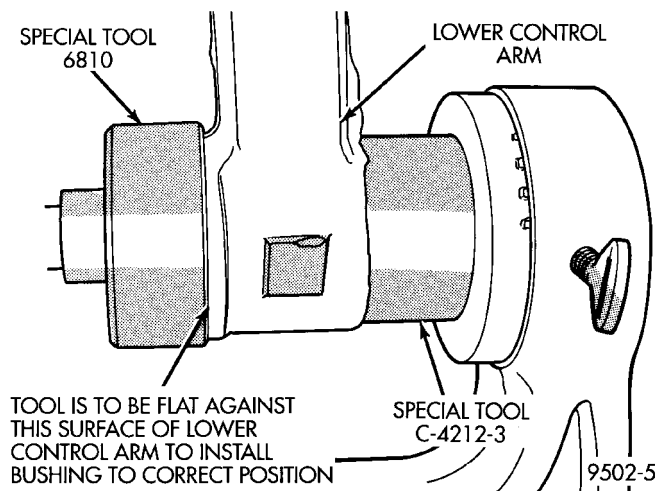

Fig. 76 Installation Position Of Front Lower Control Arm Bushing
(4) Tighten screw on Remover/Installer Special Tool C-4212-F pressing front bushing into lower control arm. Continue pressing front bushing into lower control arm until special tool 6810 is sitting flush on the machined surface of the lower control arm (Fig. 76). This will correctly position front bushing in lower control arm.